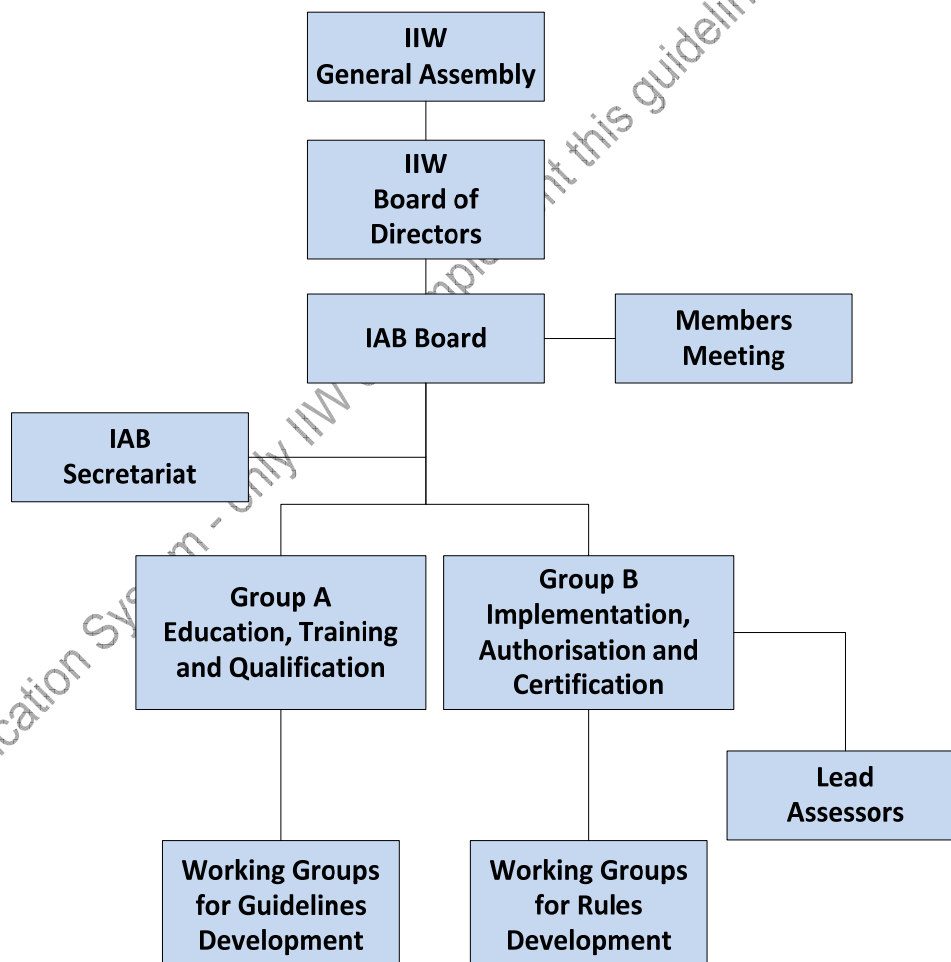

Figure 1: Organisation of the IAB
- The training syllabus (detailed information is given in IAB-252 Part 2, latest edition) is divided in Competences Units (CU);
- From the above table it is shown for each qualification level the duration “subtotal per level” in the case for IWE this means the duration of the specific training syllabus only for the IWE level, and the “Cumulated Subtotal”, is the sum of all lower’ qualification levels, see figure 1 below;